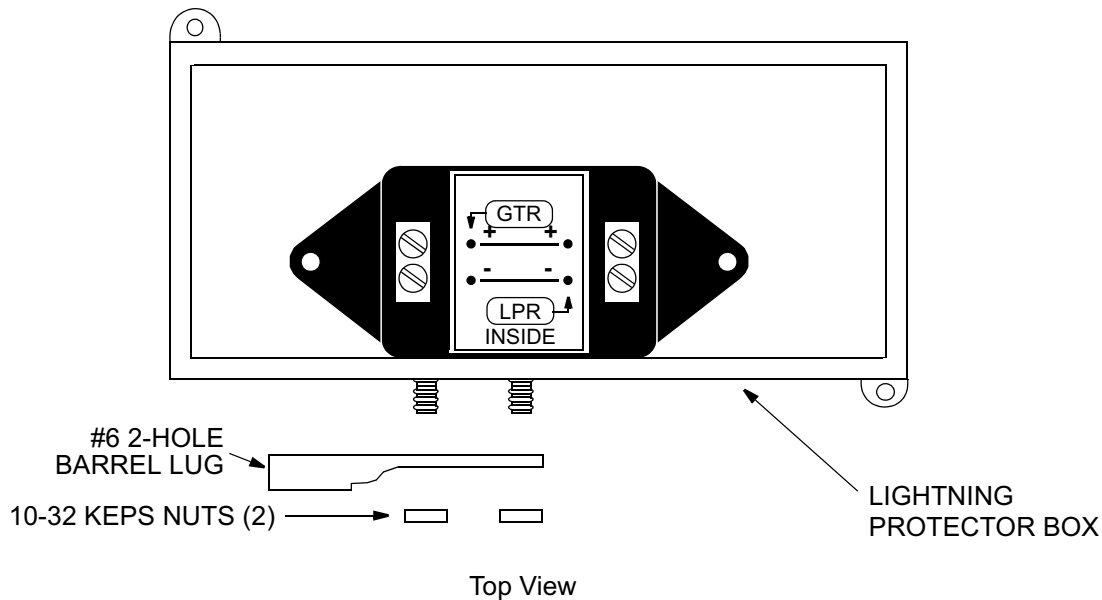

Figure 11. GTR Lightning Protector Box Ground Lug Connections
2. Refer to Figure 11 for the lightning protector box connections.
least bend in the C.O. ground cable). See Figure 11.